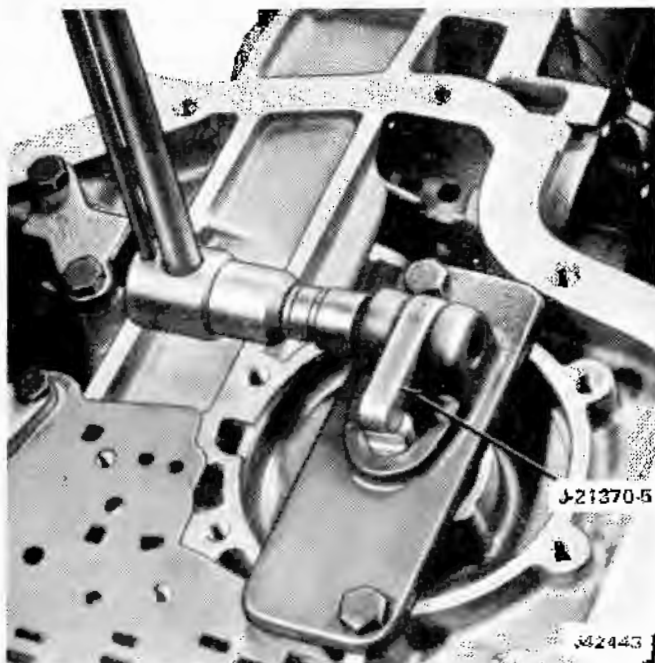

Fig. 7-13 Checking Band-Apply Pin of Rear Bands
(1) Attach Fixtures J-21370-5 and J-21370-6 to transmission case by means of rear servo assembly attaching screws, as shown in fig. 7-13. These fixtures will be used to select a band-apply pin. One of three lengths of band-apply pin must be selected, to adjust operation of rear servo.